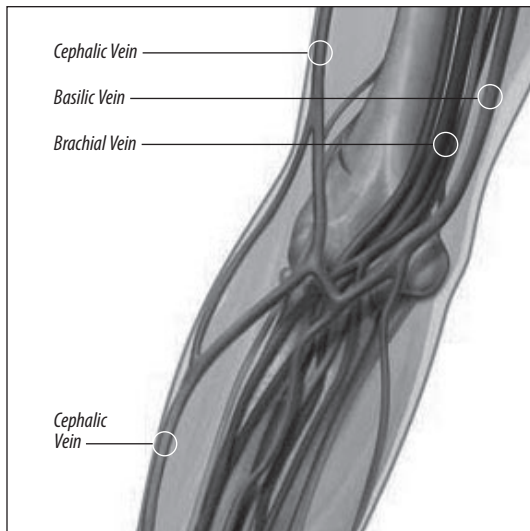

Figure 20
**NOTE:** PICCs are typically inserted into basilic, brachial, or cephalic veins (refer to Figure 20).